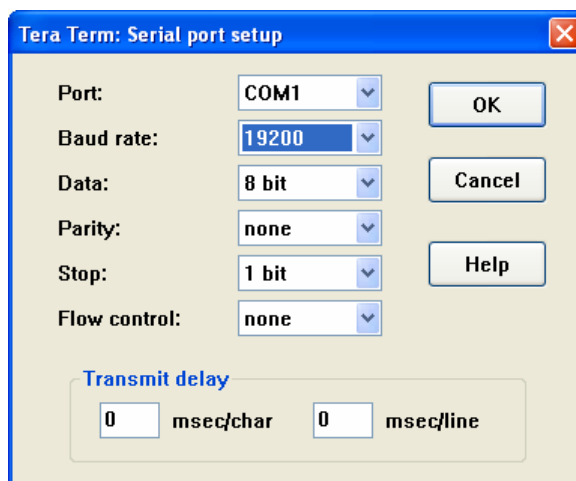

Figure 6-26: Serial Port Setup Screen
20. Select these serial port properties, then click **OK** (Figure 6-26).